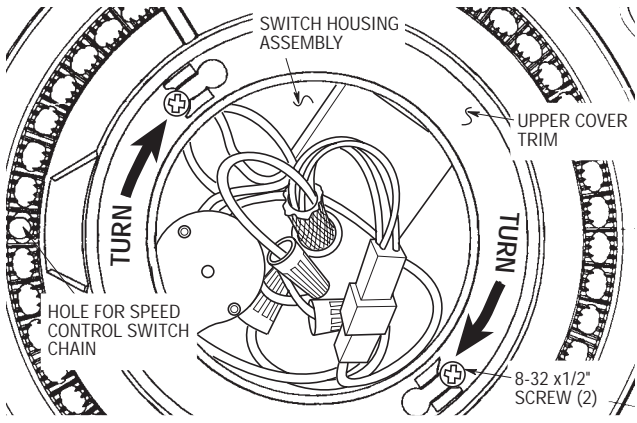

Figure 10 LOOKING UP INTO SWITCH HOUSING ASSEMBLY
- 15. Turn fan assembly over so the bottom is oriented up. Partially install two 8-32 x 1/2" screws (supplied) in the switch housing assembly (Figure 10). Slip the speed control switch chain through the hole in the upper cover trim, then position the cover trim on the switch housing assembly so that the two screws protrude through the key hole slots in the cover trim. Turn the cover trim fully clockwise and then securely tighten the two 8-32 x 1/2" screws.